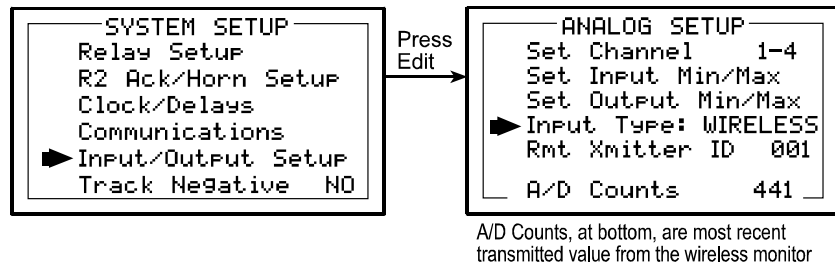

Figure 6.3
Use the **WIRELESS** setting shown at right of Figure 6.3 ONLY FOR COMMUNICATION TO GDX-350 WIRELESS TRANSCEIVERS.
**Wireless MODBUS** allows one or many GDA-400s to function as wireless modbus *slaves* by selecting **wireless MODBUS** in the **COMM SETUP** menu (Figure 6.3). These wireless networks require a modbus *master* such as a DCS, HMI, or other Bacharach controller; also equipped with a radio modem. One transceiver must be